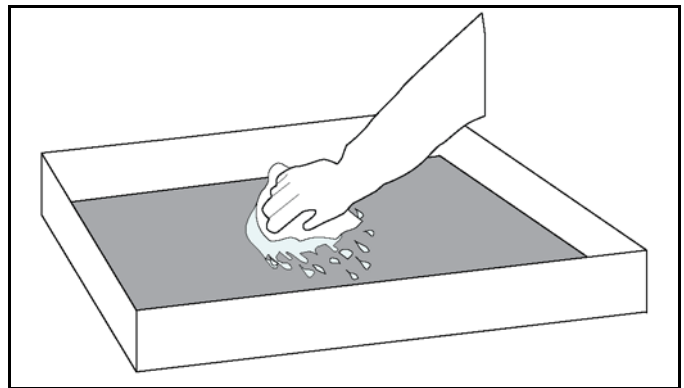

Figure-109
15. Rinse with a separate clean, sanitizer-soaked grill cloth to rinse off the remaining grill cleaner. Repeat for all of the release sheets. See Figure-109.